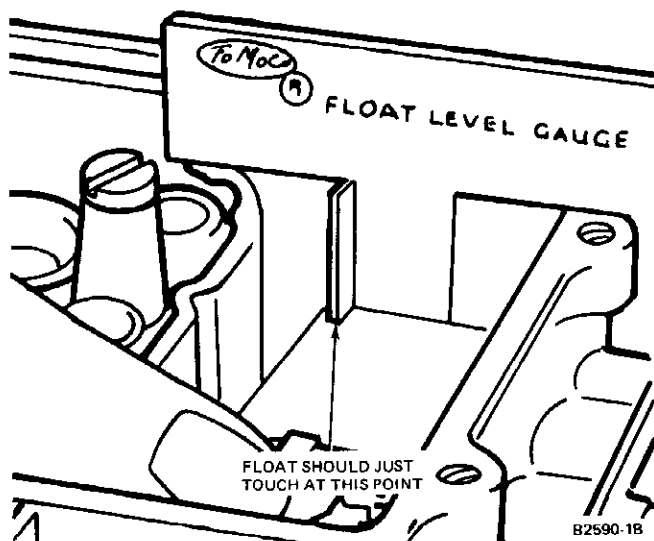

FIG. 19 Fuel Level (Float) Adjustment—Dry
If the cardboard float gauge is used, place the gauge in the corner of the enlarged end section of the fuel bowl (Fig. 19). The gauge should touch the float near the end, but not on the end radius.
3. If inspection proves it necessary to remove the Elastomer valve, remove the float, grasp the elastomer valve firmly and pull it out. **If the Elastomer valve tip broke off during removal, be sure to remove the tip from the fuel bowl. An Elastomer valve must be replaced whenever it is removed from the main body. See Fig. 19 and 22.**